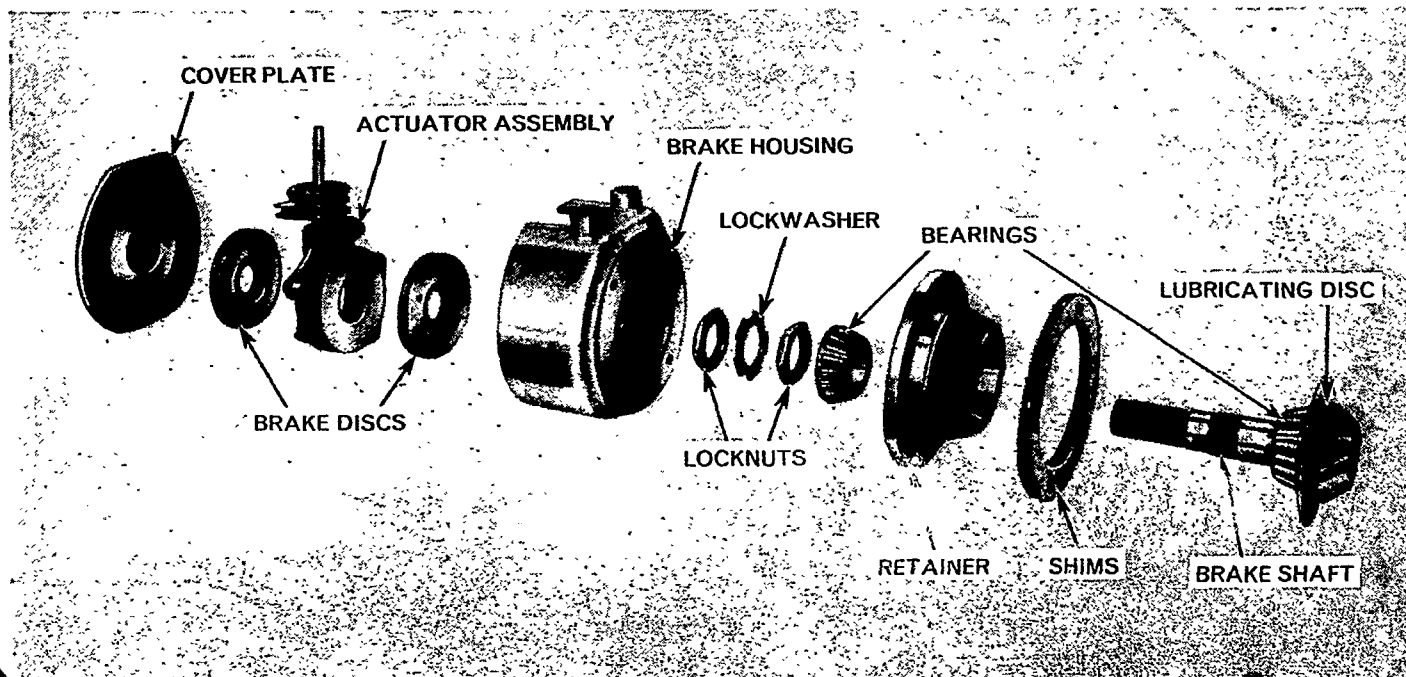

Figure 71
9. Remove the outer cone and roller bearing and the inner cone and roller bearing, oil deflector and handbrake shaft assembly from the bearing retainer, Figure 71.